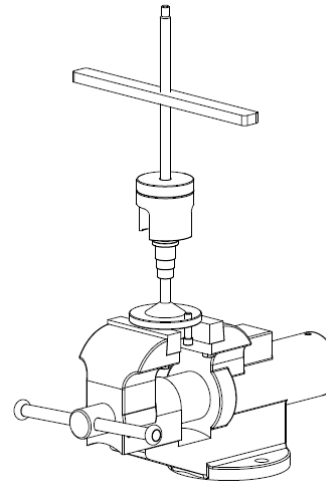

Figure 18
Use the disassembly tool (see figure 18, next page) to disassemble the cam ⑨. The pulley is spring ⑦ loaded with significant amount of force, the use of the disassembly tool will keep the pulley compressed.
- Using a vice, mount the disassembly tool as shown in figure 18.